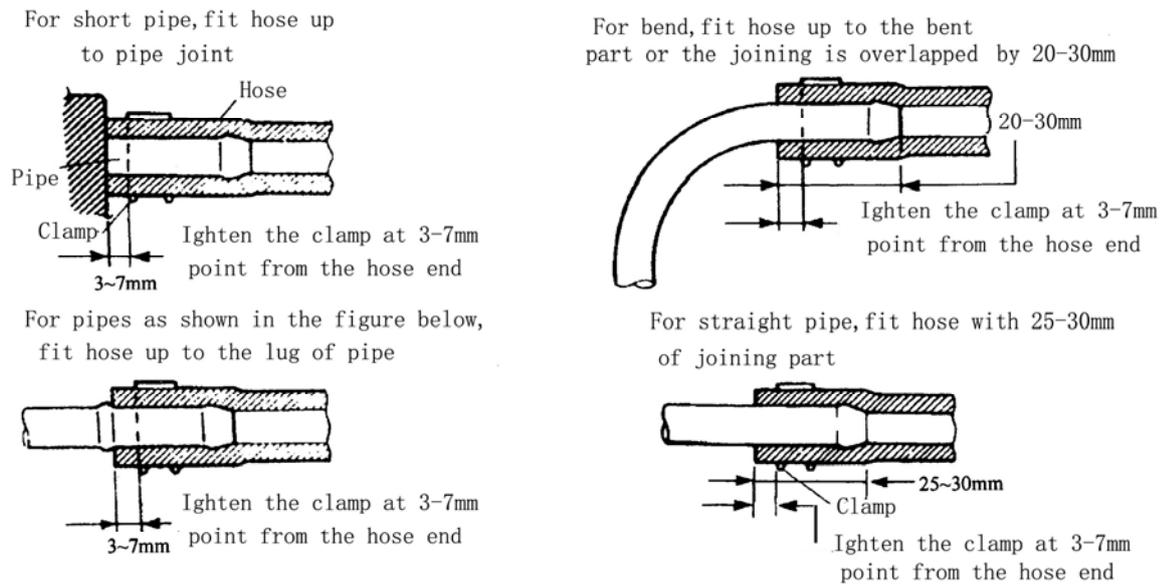

FIG. 6-5
- (1) Disconnect "-" terminal from battery.
- (2) Do not smoke.
- (3) Place "NO SMOKING" sign.
- (4) CO2 fire extinguisher must be prepared.
- (5) Work in the place of no fire source (gas heater, etc.) and good ventilation.
- (6) Wear safety glasses;
- (7) Remove the fuel tank cap to de-pressurize the fuel tank, and then install the cap.
- (8) Care fully reduce the fuel pressure not to make fuel sprayed out due to the still high pressured fuel line after stopping engine when removing or disconnecting the system.
- (9) Connecting of full hoses is different by the kind of pipes. Connect the right hoses as shown in the figure 6-5.